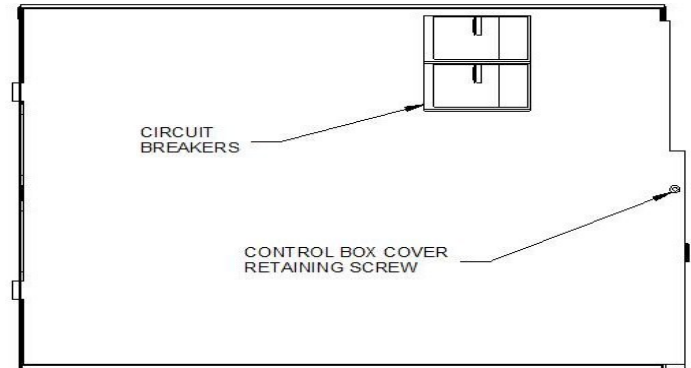

Figure 8: Control Box Cover
4. Remove the screw on the right side of the control box cover and remove the control box cover. Refer to Figure 8.